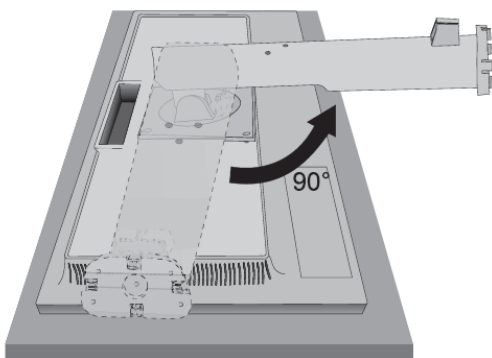

Figure 1
1. Place monitor face down on a non-abrasive surface (Figure 1).
2. Please pivot base 90 degrees as shown in Figure 1.